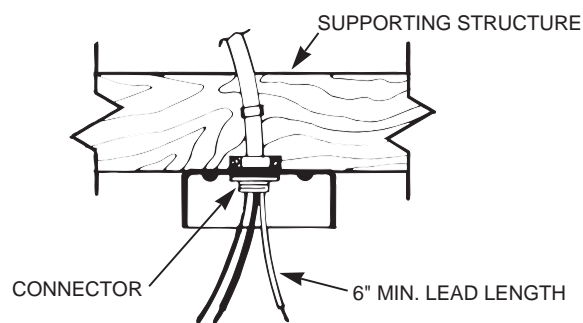

FIGURE 2
A. Bring electrical cable into the outlet box and attach with an approved connector. Make certain that wiring meets all national and local electrical codes. Wire leads should extend at least 6" beyond outlet box for ease in making connections. See Figure 2.